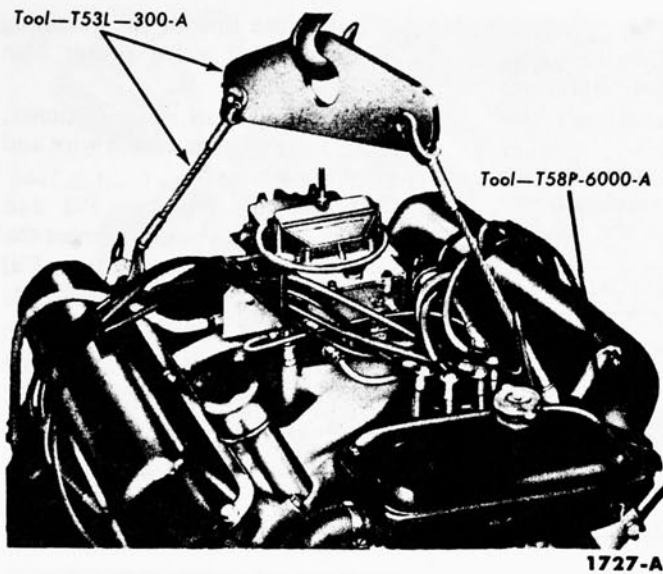
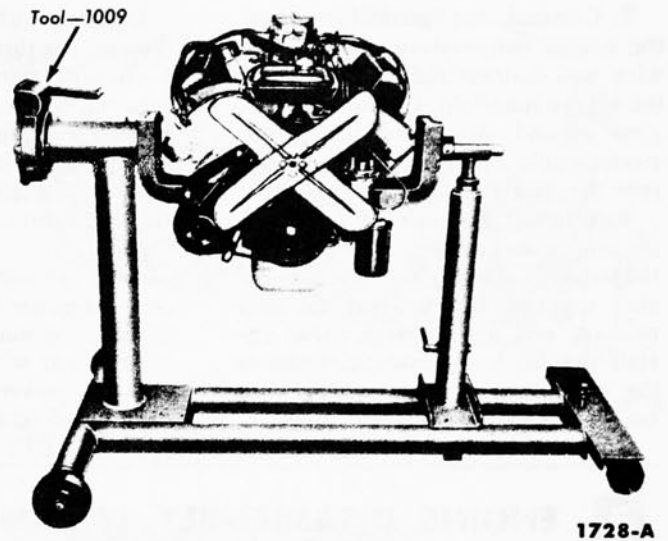

FIG. 13—Engine Lifting Brackets and Sling
FIG. 14—Engine Work Stand
bolts. Install the engine left lifting bracket on the front of the left cylinder head where the coil mounts. Install the engine right lifting bracket at the rear of the right cylinder head. Attach the engine lifting sling (Fig. 13). Raise the engine slightly and carefully pull it from the transmission. Lift the engine out of the engine compartment and install it on a work stand (Fig. 14).
1. Position the exhaust gas control valve, with a new gasket on each side, on the right exhaust manifold studs. Temporarily tie the valve to the manifold. Place a new gasket over the studs of the left exhaust manifold. Loosen the engine right and left support insulators at the chassis. Attach the engine lifting brackets and sling (Fig. 13), then remove the engine from the work stand.